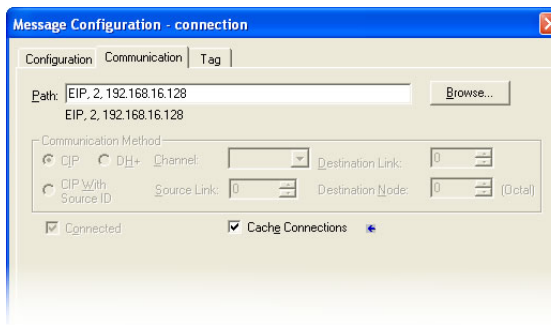

Figure 90: Setting the Communication Path
d) “Communication” tab settings (refer to Figure 90):